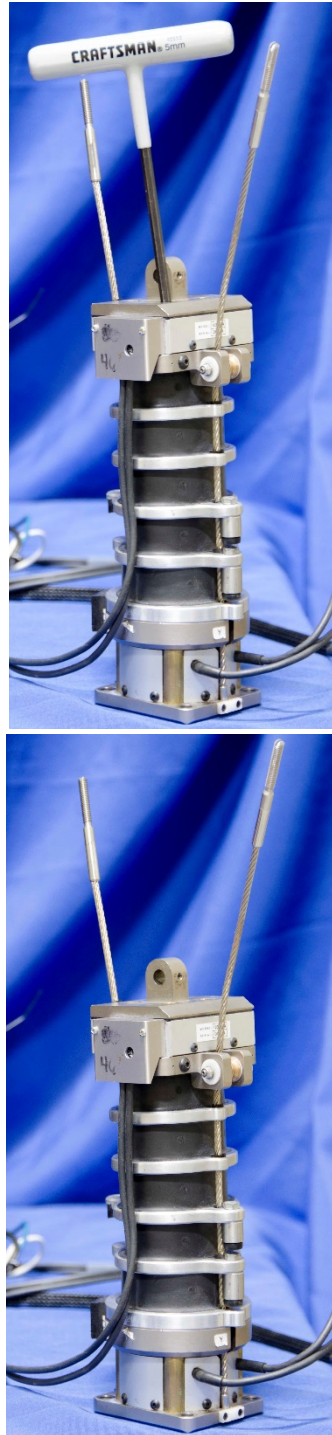

Figure 4-28. Install the upper neck load cell
4.2.2.17 Install the Upper Neck Load Cell (SA572-S110) (or Upper Neck Load Cell Structural Replacement 472-2700) to the top plate of the Molded Neck Assembly (472-2100) using four M6 x 14 SHCS and four M6 hi-collar lock washers (Figure 4-28).